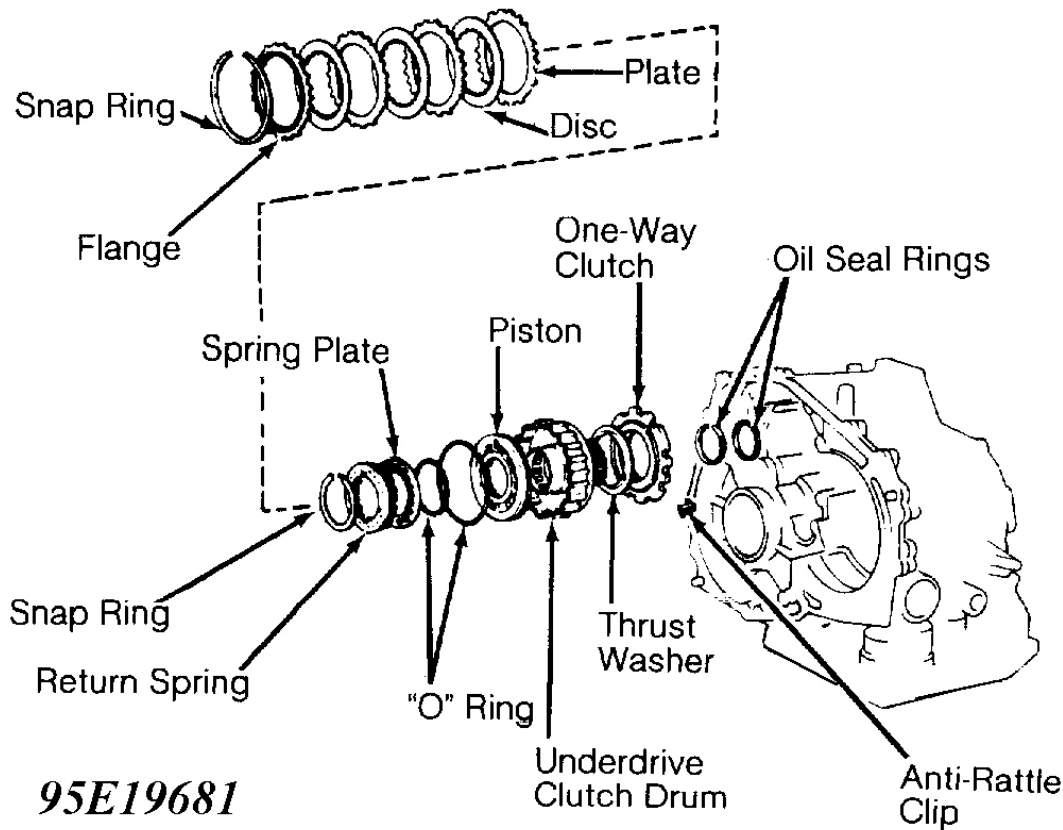

Fig. 47: Exploded View Of Underdrive Clutch & No. 3 One-Way Clutch
1. Remove one-way clutch and thrust washer from underdrive clutch drum. Remove snap ring from underdrive clutch drum. See **Fig. 47** . Remove flange, discs and plates from clutch drum. Note number and location of components. Using appropriate spring compressor, compress return spring plate.